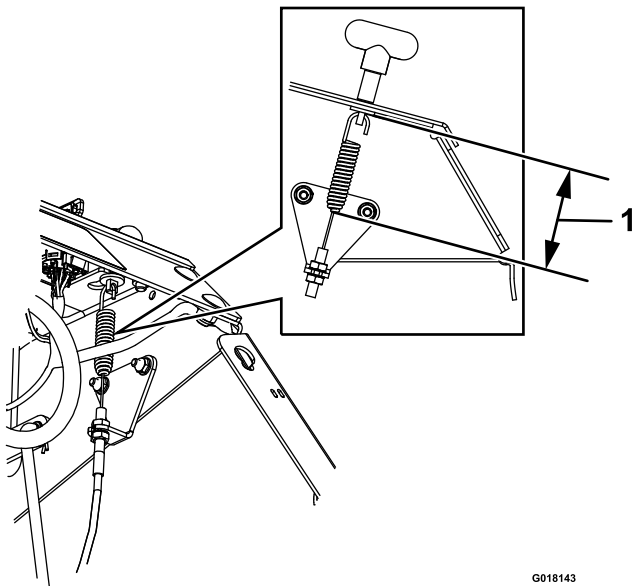

Figure 18
7. Adjust the nut position until 7.9 cm (3-1/8 inch) from the bottom of the link to the bottom of the spring. See Figure 18.